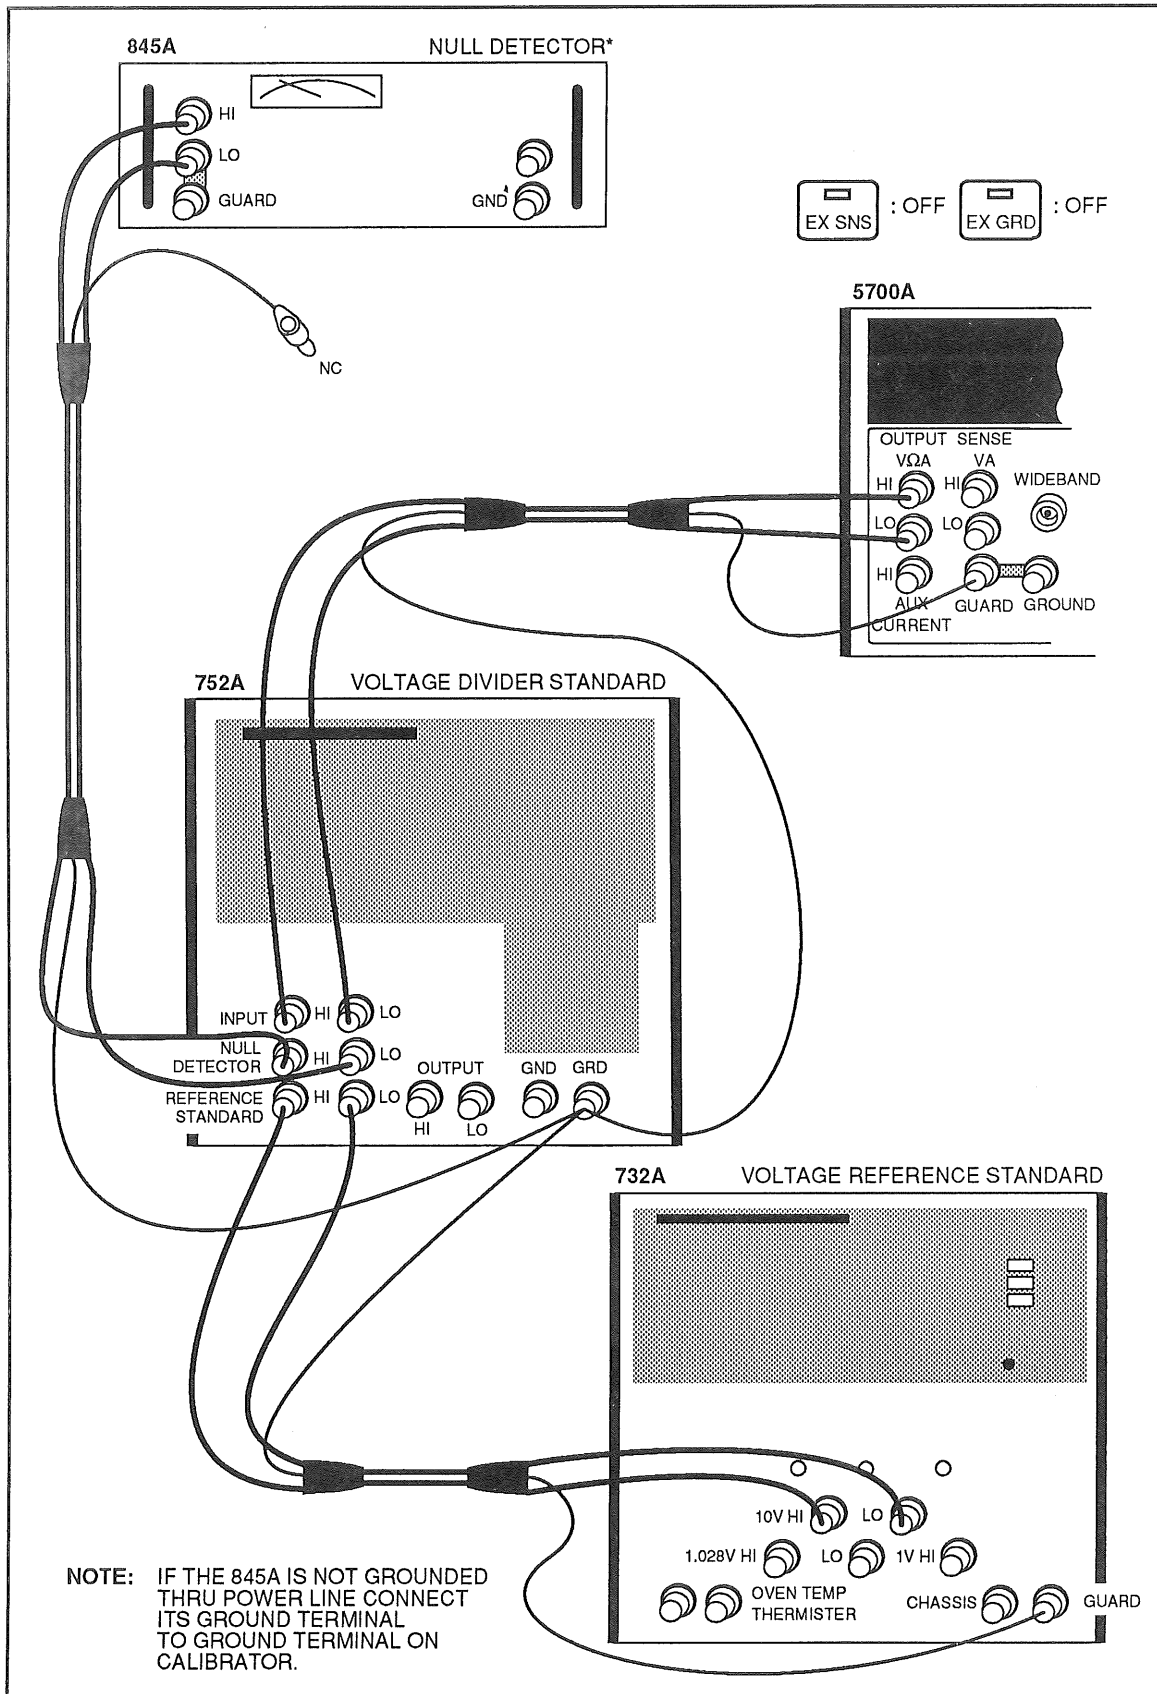

Figure 3-6. DC Voltage Verification Test
1. Connect the equipment as shown in Figure 3-6.